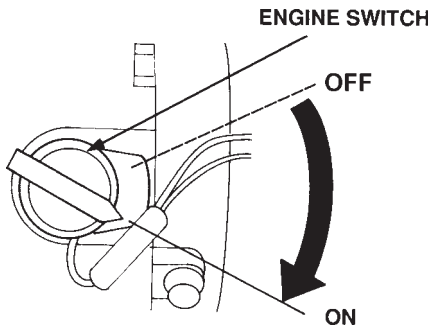

Figure 15. Engine ON/OFF Switch
- Turn the engine switch (Figure 15) to the **ON** position.